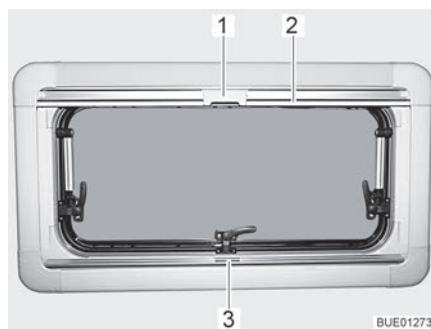
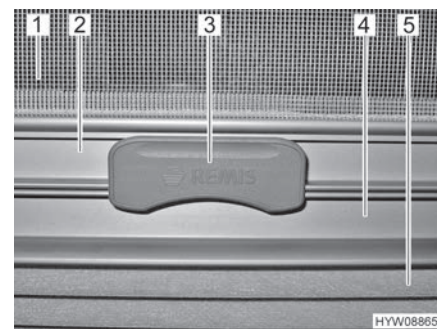

Fig. 14 Hinged window
Fig. 15 Catch
The Roman shade (Fig. 15,5) is located in the lower blind box.
- Seize the Roman shade by the centre of the holding bar (Fig. 14,3 and Fig. 15,4), pull it from the bottom to the top and release it at the desired height. The Roman shade will stay at this height.
The insect screen (Fig. 15,1) is located in the upper blind box.
- Pull the insect screen down by the holding bar (Fig. 14,2 and Fig. 15,2), until it touches the holding bar of the Roman shade (Fig. 15,4).
- Clip the catch (Fig. 14,1 and Fig. 15,3) on the insect screen into the holding bar of the Roman shade. When the catch is locked, the Roman shade and the insect screen can be adjusted together.
- Push the catch (Fig. 15,3) on the insect screen upward.
- Move the insect screen back slowly on the holding bar (Fig. 14,2).